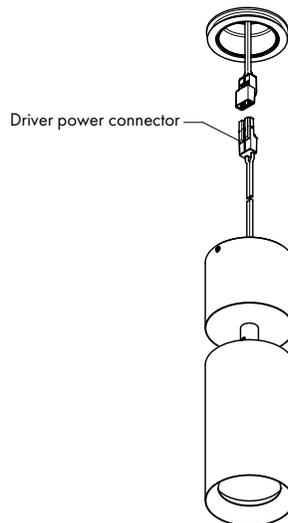

FIG 4.5 Make Fixture Wire Connection
STEP 6 Attach Driver power connector and install Fixture while moving wiring into junction box - **FIG 4.5**.